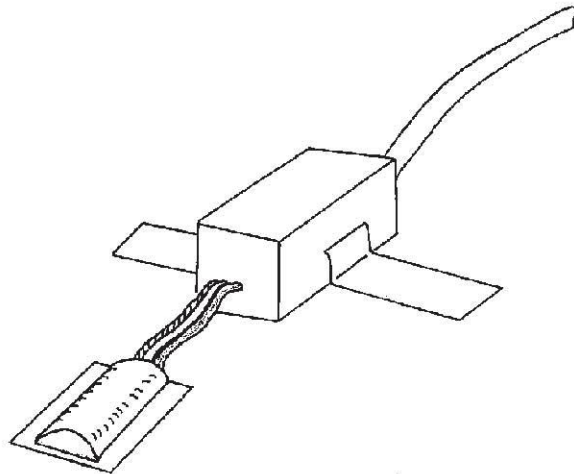

Figure 5: SENSOR READY FOR PROPER INSTALLATION
2. Remove strain gage from packaging and inspect for dust and particles that may be on the gages from shipping. Wipe welding area with gauze pad or clean cloth. Bend transition section tabs down to the sides of the water proofing compound. Bend the transition sections tabs flush with the bottom of the waterproofing compound. (Figure 5)